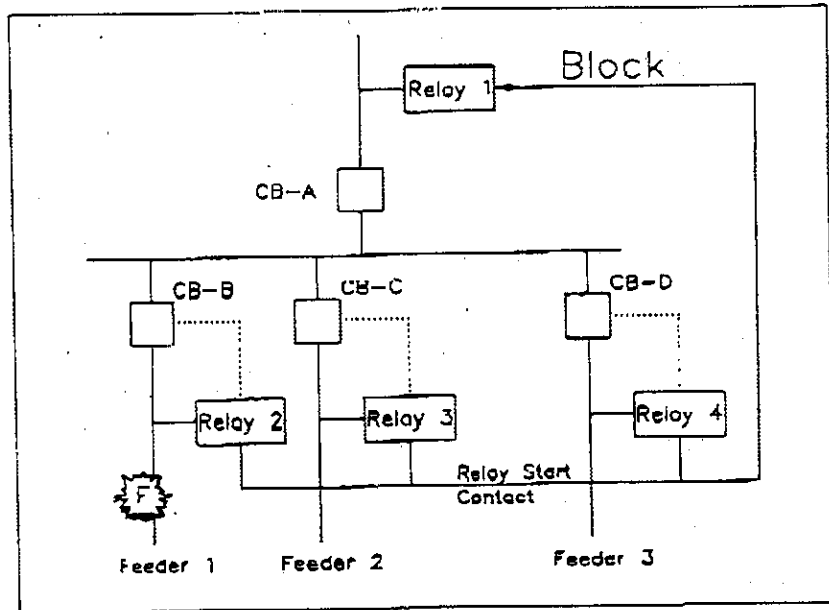

Figure 3: Blocking Method
2. The upstream relay may be blocked by a start contact of the local relay as shown in Figure 3.
Figure 3 shows the blocking method for a fault on Feeder 1 that should be cleared by Relay 2 and CB-B. If CB-B fails to clear the fault, the block will be removed allowing Relay 1 to trip CB-A and clear the fault.
A fault on Feeder 1 is shown in Figure 3. The start contact of Relay 2 will send a block signal to Relay 1. When CB-B is tripped by Relay 2, the start contact resets and removes the block signal from Relay 1. The fault current will be removed before the low set overcurrent unit,  $I_{>>}$ , of Relay 1 times out and CB-A will not trip for the successful clearing of a feeder fault.